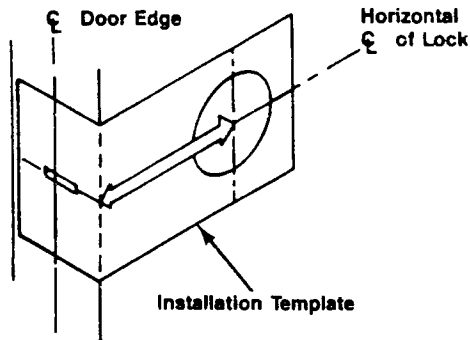

Figure 1
- Using installation template, mark location of cross bore at proper backset. Mark edge of door for edge bore at proper centerline location. (See Figure 1.)